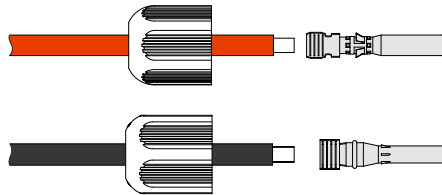

Figure3-15 Crimp the metal terminal
- Step 2 Unscrew the lock nut of positive and negative connection, lead the positive and negative wires go through corresponding lock nut, and then insert the positive wire and negative wire into the positive metal terminal and negative metal terminal respectively. Crimp the metal terminals firmly by crimping pliers, as shown in Figure3-15.